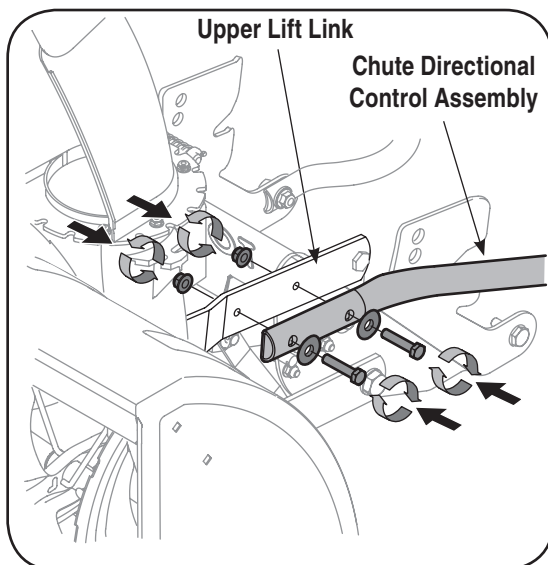

Figure 6-1
1. Attach the chute directional control assembly to the upper lift link on the left side of the auger housing. Assemble with two hex screws and washers as illustrated in Figure 6-1. Secure with two flange nuts.